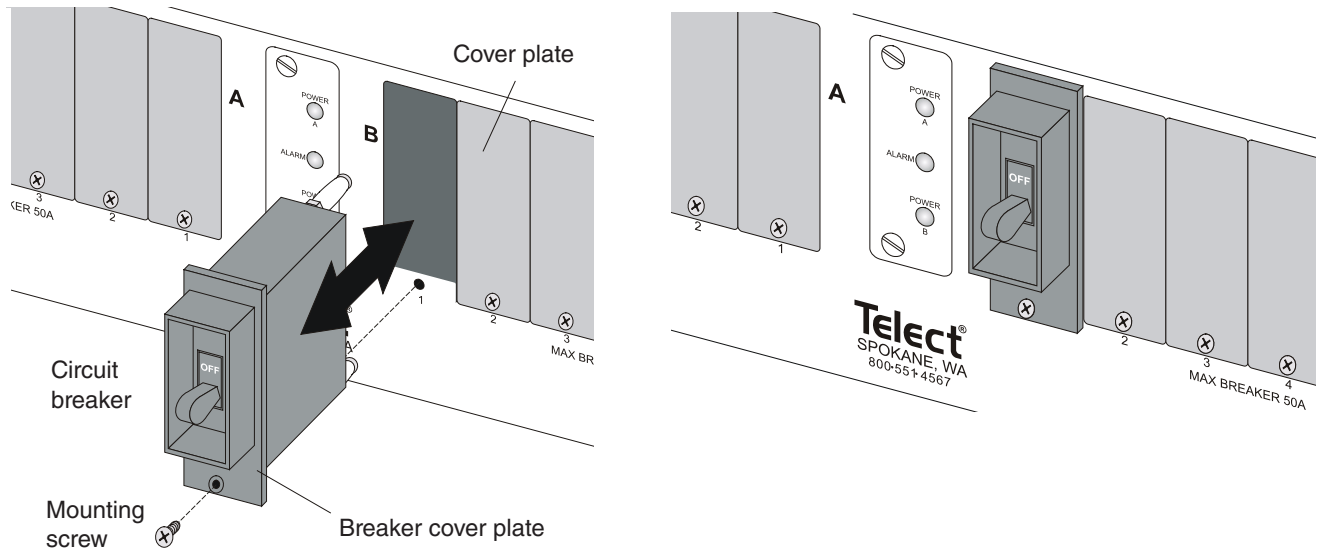

Figure 9 - Installing Circuit Breaker
34. Make sure the circuit breakers or fuse holders are switched off, empty, or contain dummy devices. Also make sure load devices and/or distribution units are disabled. (Normally, circuit breakers are OFF when the switch operator [handle] is down.) Then install circuit breakers or fuse holders and fuses for the dual-hole lug outputs, as shown in Figure 9.